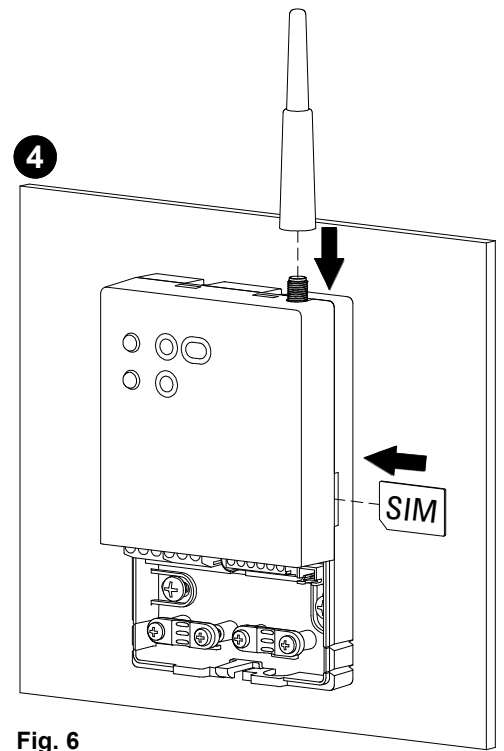

Fig. 6
- ④ Screw the antenna supplied onto the connector and insert the SIM card in the telephone interface, after suitably preparing it as described in the paragraph: "**PREPARING THE SIM CARD**" (Fig. 6).